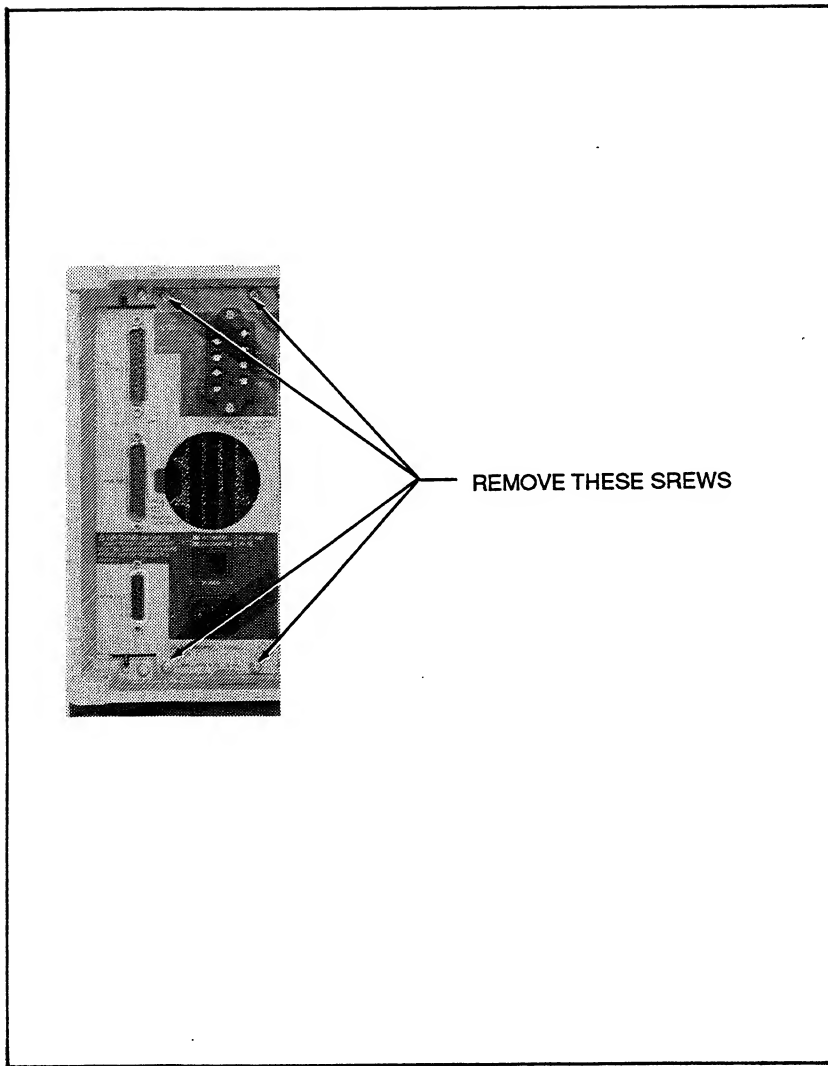

Figure 3-2. Computer I/F Module Securing Screws
1. Remove the Computer Interface Module by removing the four #6-32 Phillips-head screws on the rear panel. See Figure 3-2 to locate the screws.